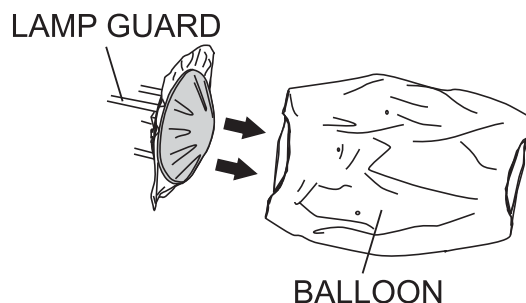

Figure 28. Removing the Balloon
2. Unzip the zipper at the bottom and top of the balloon. Slide the balloon over the top of the lamp guard as shown in Figure 28.